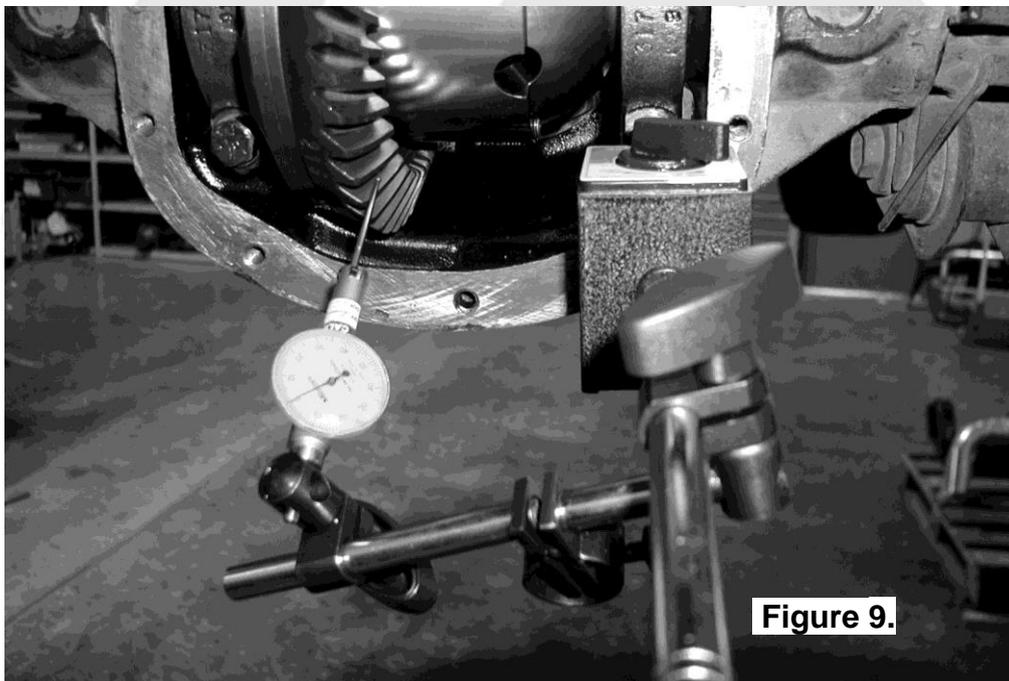

Figure 9.
- Set a depth indicator on one of the ring gear teeth (Fig.9.).